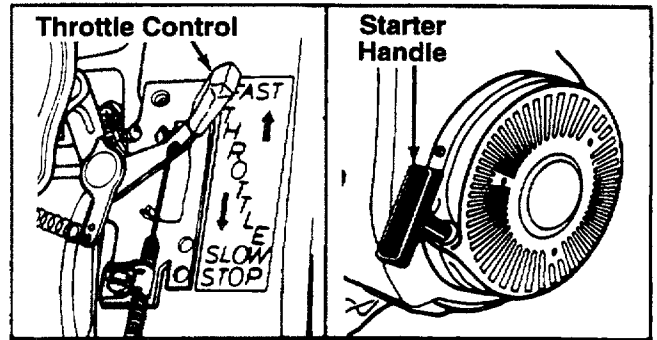

FIGURE 12.
- Place the throttle control lever in FAST position. See figure 12.
- Grasp starter handle (see figure 12) and pull rope until engine reaches start of compression cycle (rope will pull slightly harder at this point). Let the rope rewind slowly.